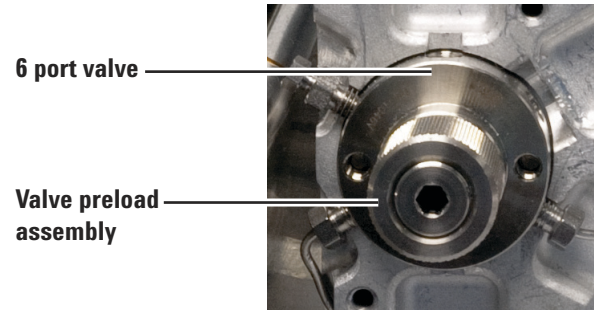

Figure 32 Valve preload assembly
- 7 Unscrew the preload assembly on the front of the valve (Figure 32).